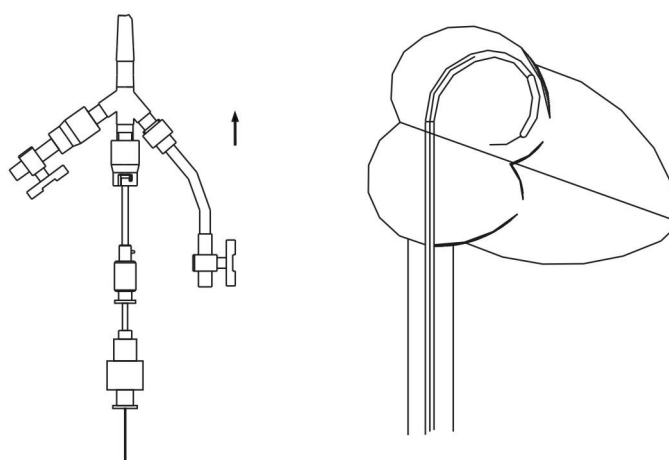

Fig. 19 Advancing the Balloon Catheter into the Left Atrium
**Caution: During the above steps, it is important not to pull the guide wire out of the left atrium (see fig. 19).**